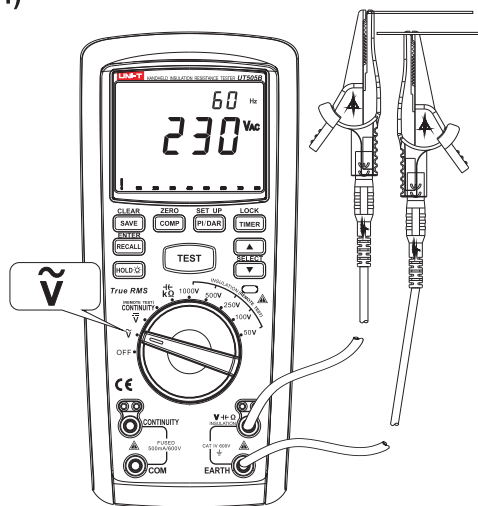

Figure 4
1. Measuring of AC Voltage (See Figure 4)
- ① Insert the red probe into "V" jack (red jack), and black one into "EARTH" jack (black jack).
- ② Rotate dial switch to the tap position of "V~" and connect the probe to both ends of the power supply or load to be tested in parallel.
- ③ Read current measuring values of AC voltage and frequency directly from the display.
- ④ In measuring, if intending to save measured voltage, press the key of "SAVE/CLEAR" for saving.